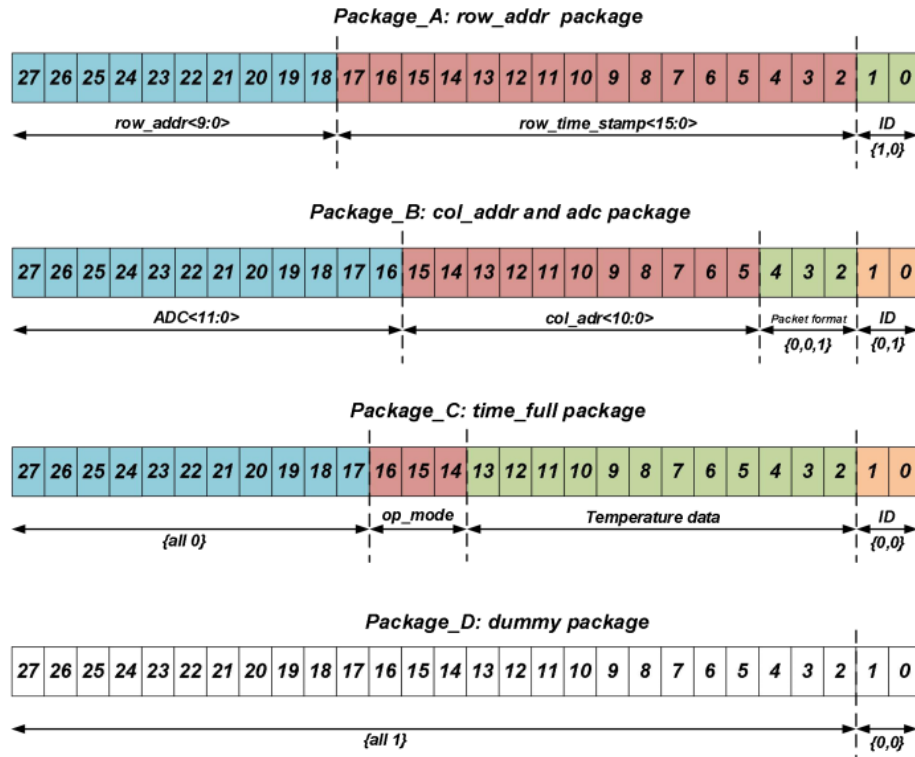

Fig 1-12 Format 1: 28-bit packet with ADC data
The Format 1 also has 4 packages as shown in Fig. 1-12, each of which is 28-bits. The lowest 2 bits represent the type (ID) of the package. For example, if ID = 2b'10, it means Package\_A, from which the row address and row timestamp could be parsed. It differs from Format 0 in that the ADC information has 12 bits and the row timestamp has 16 bits.